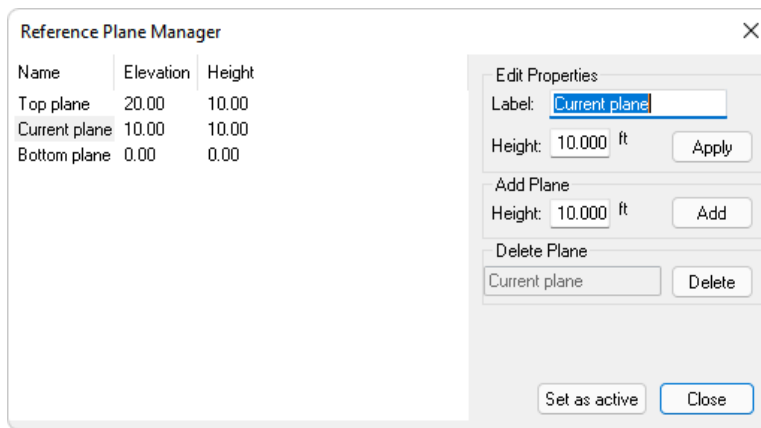

FIGURE 2-5
- Go to *Model* → *Level* and click on the **Story Manager** icon  to open the *Reference Plane Manager* shown in **FIGURE 2-5**.